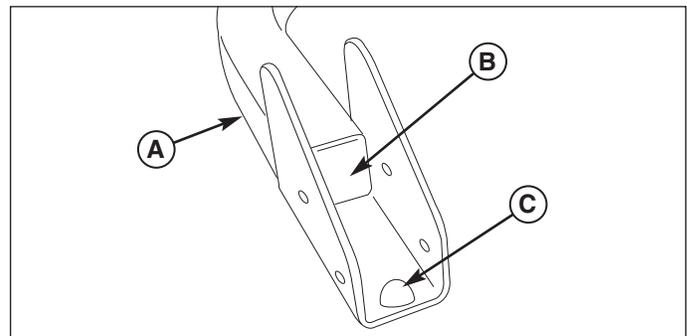

Figure 7. Assemble the Top Loop
1. Install the plastic cap (B, Figure 7) into the end of the top loop tube (A). Repeat for other end of tube.